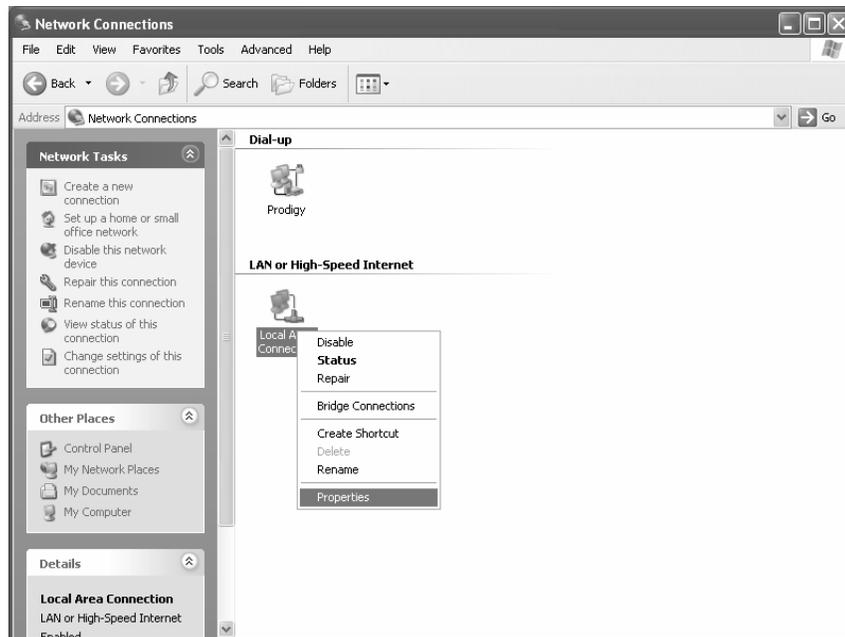

Figure 118: Network Connections
2. A list of network adapters are displayed. A Local Area Connection must be listed under LAN or High-Speed Internet. If not, the network is not installed correctly. See Figure 118.